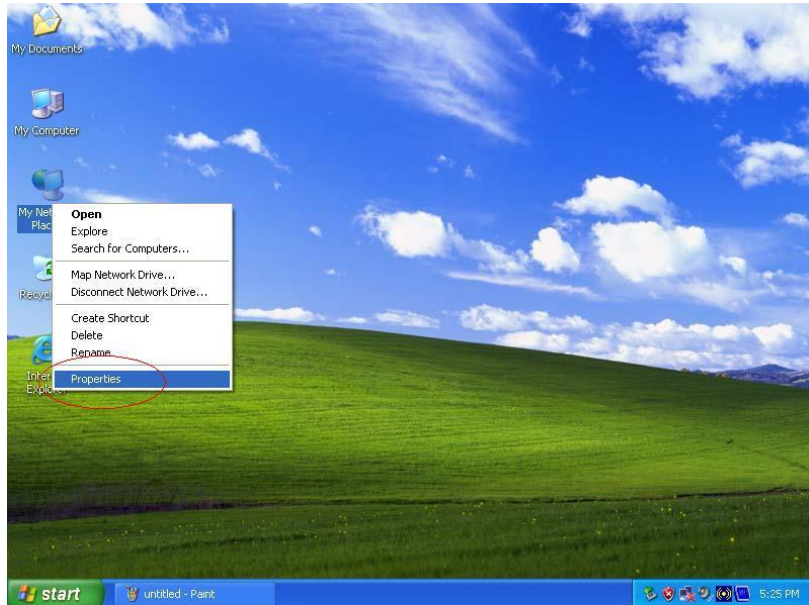

Figure 1.4
1.4 Go into My Network Places, right click on the mouse and go into Properties. See Figure 1.4